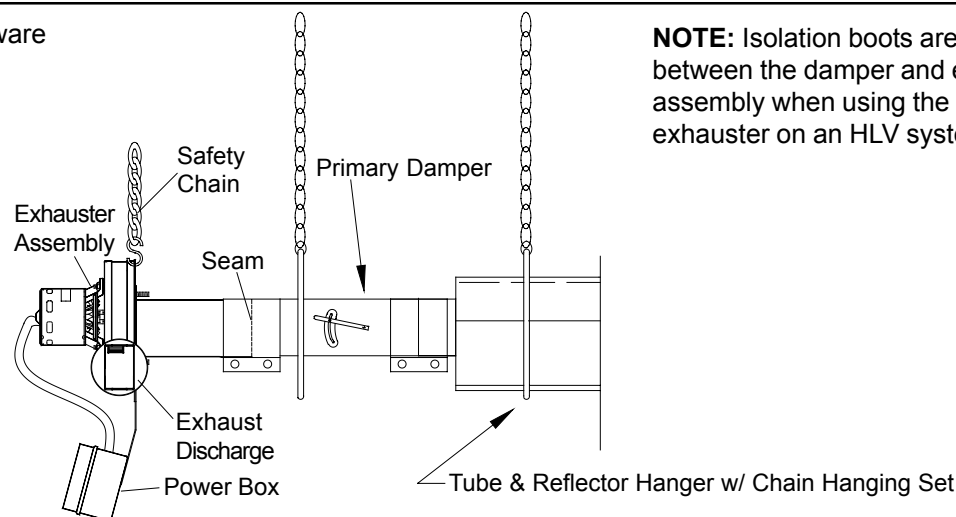

Figure 3-5
3. Mount the inlet and outlet adapters to the vacuum pump using self-tapping sheet metal screws, and seal the joints with high temperature sealant. (The NC-7 does not require an inlet adapter or isolation boots. See figure 3-5).